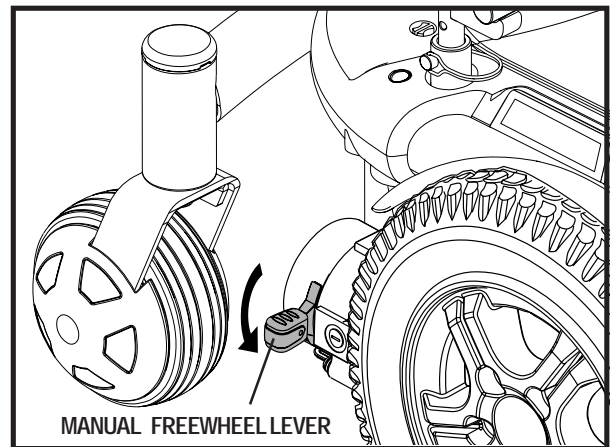

Figure 9a. Freewheel Mode (Drive Disengaged)
3. Push down both manual freewheel levers to disengage the motors (freewheel mode). See figures 9a and 9b.